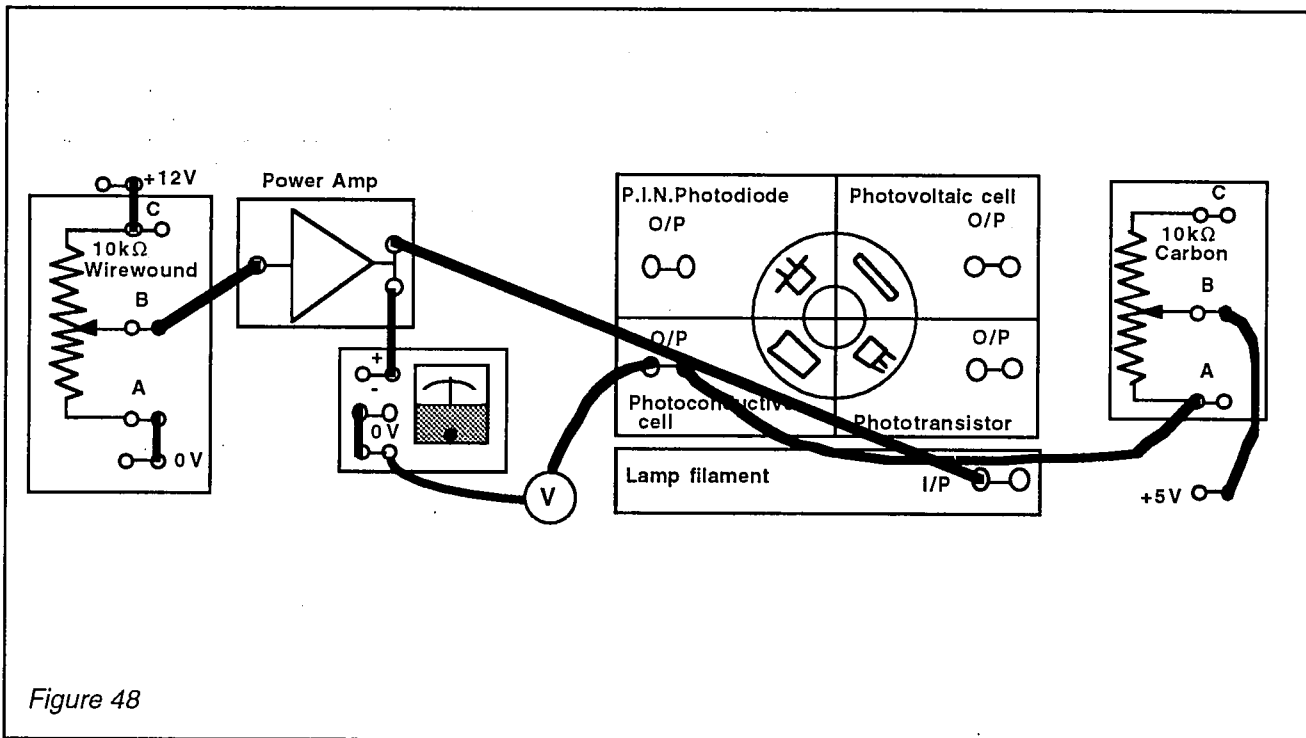

Figure 48
- Connect the circuit as shown in Fig 48 and set the 10k Ω carbon slider control to setting 2 so that the photoconductive cell load resistance is approximately 2k Ω .